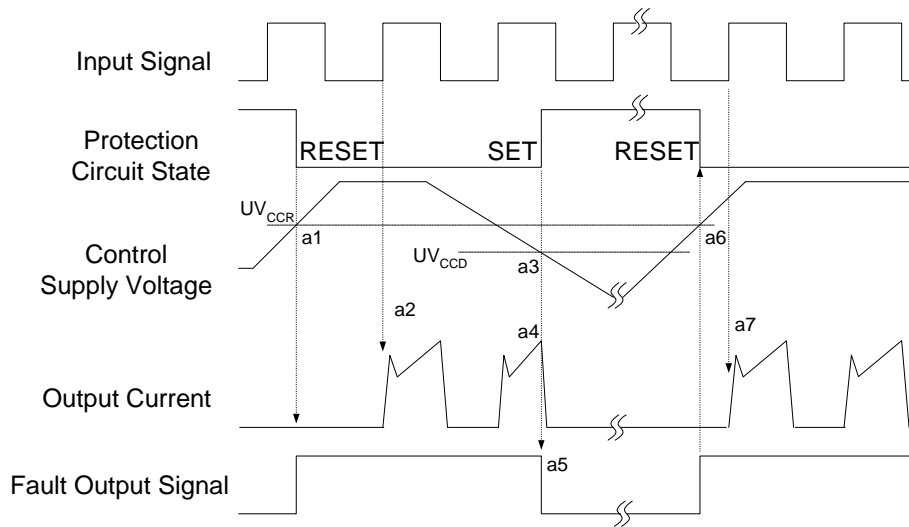

Figure 10. Mounting Screws Torque Order
- 11. Avoid one side tightening stress. Figure 10 shows the recommended torque order for mounting screws. Uneven mounting can cause the ceramic substrate of the SPM® 45 package to be damaged. The pre-screwing torque is set to 20 ~ 30% of maximum torque rating.